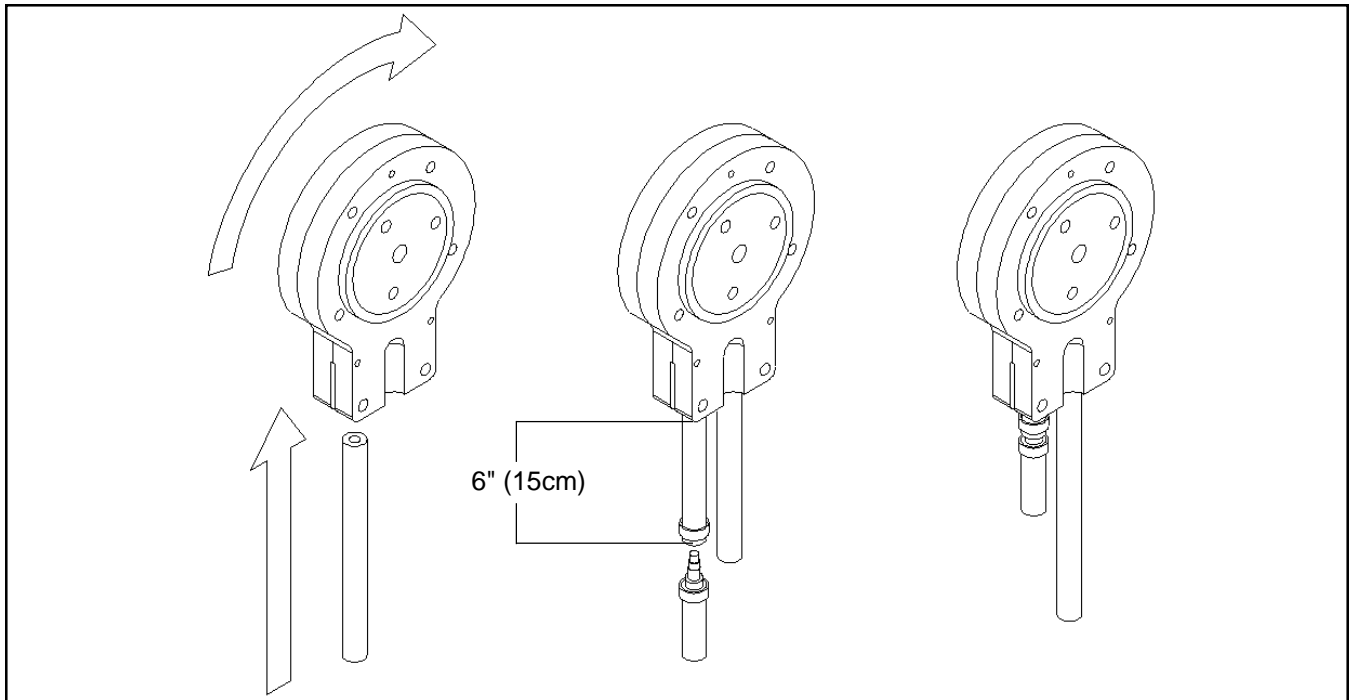

Figure 2-2 Mix Hose Installation
2. Feed one end of the mix pump hose into the entering or pickup hose side (left) of black cover (Fig2-2).